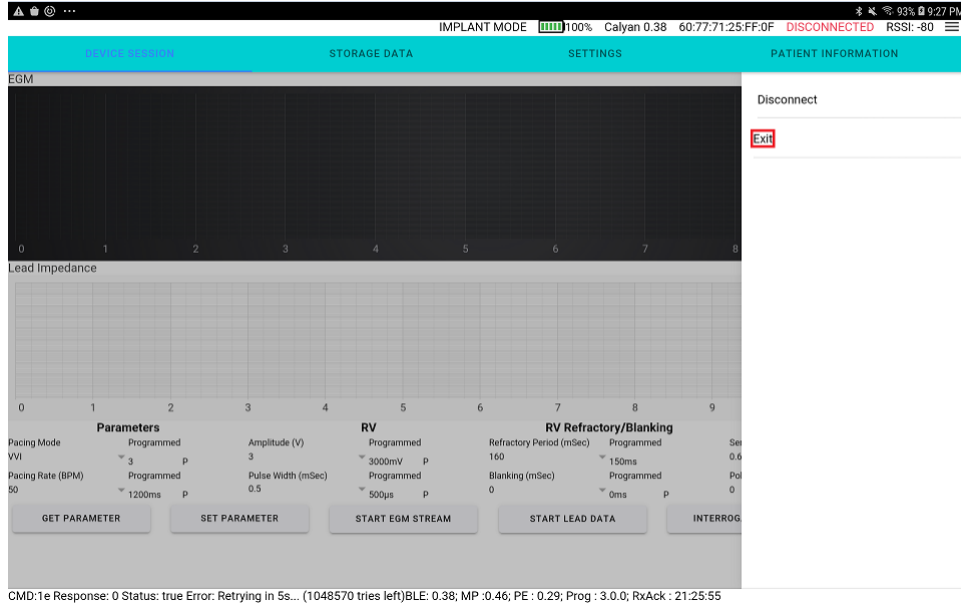

Figure 10: Exit App
7. The  icon also gives the user the ability to exit the app entirely by tapping “Exit” (Figure 10).